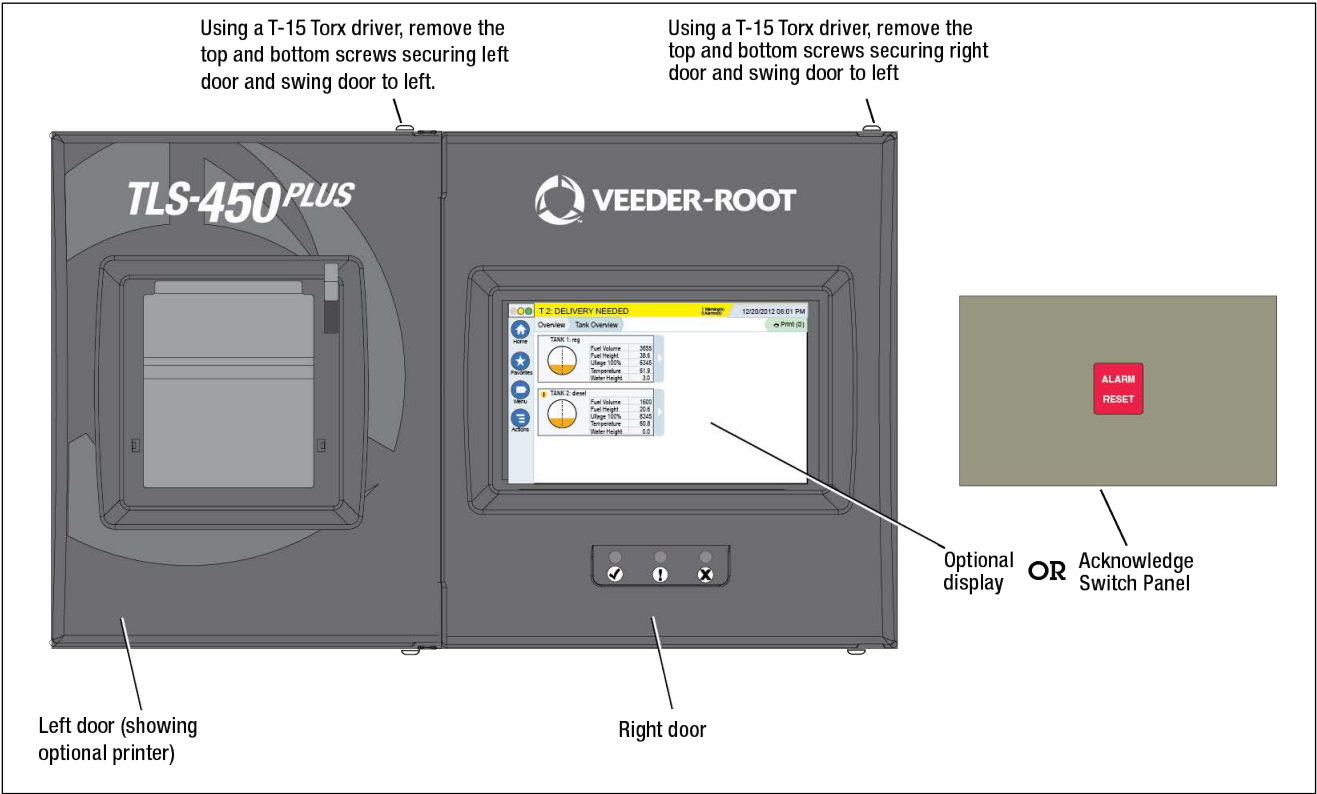

Figure 27. TLS-450PLUS Access
1. Open both front doors of the console (see Figure 27) or the door of the TLS-XB as appropriate.